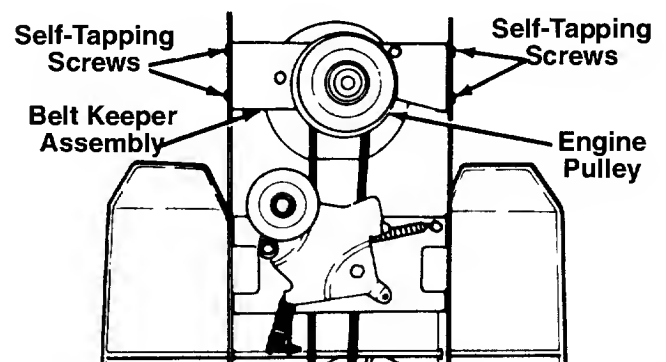

FIGURE 25.
4. Remove the four self-tapping screws which hold the belt keeper assembly to the frame at the engine pulley. Push the belt keeper assembly forward, out of the way. See figure 25.